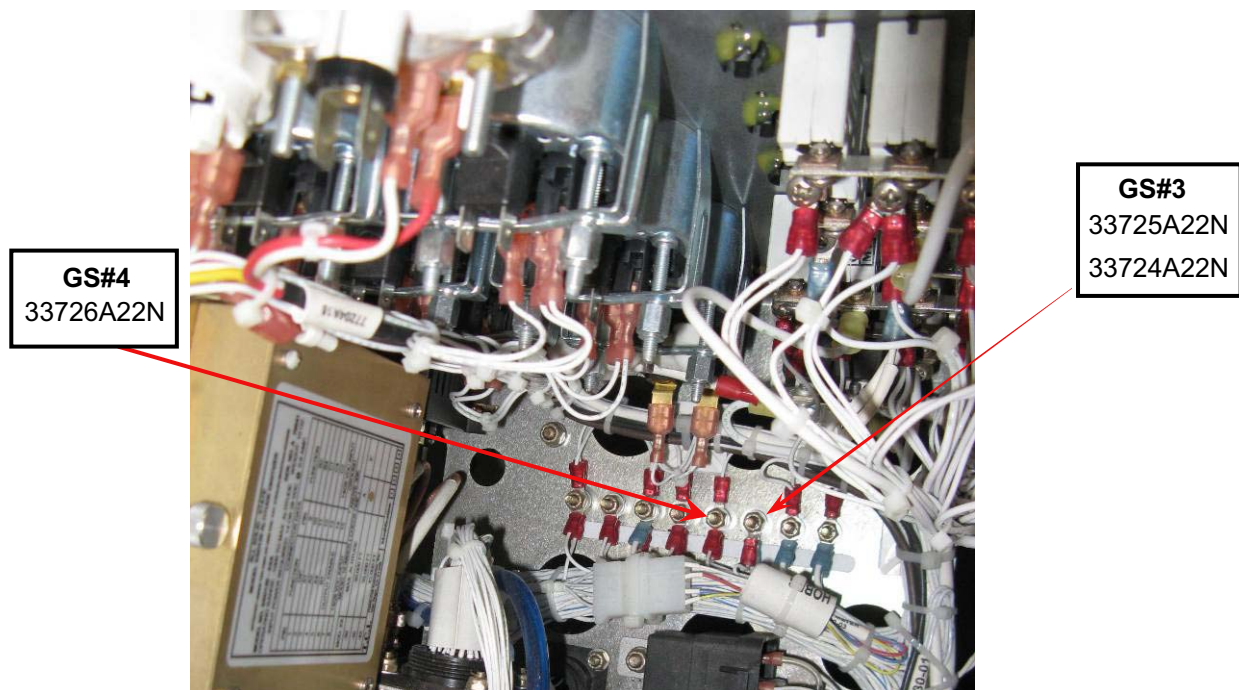

Figure 2
- 10.6 Attach the ground wires as shown in Figure 2.